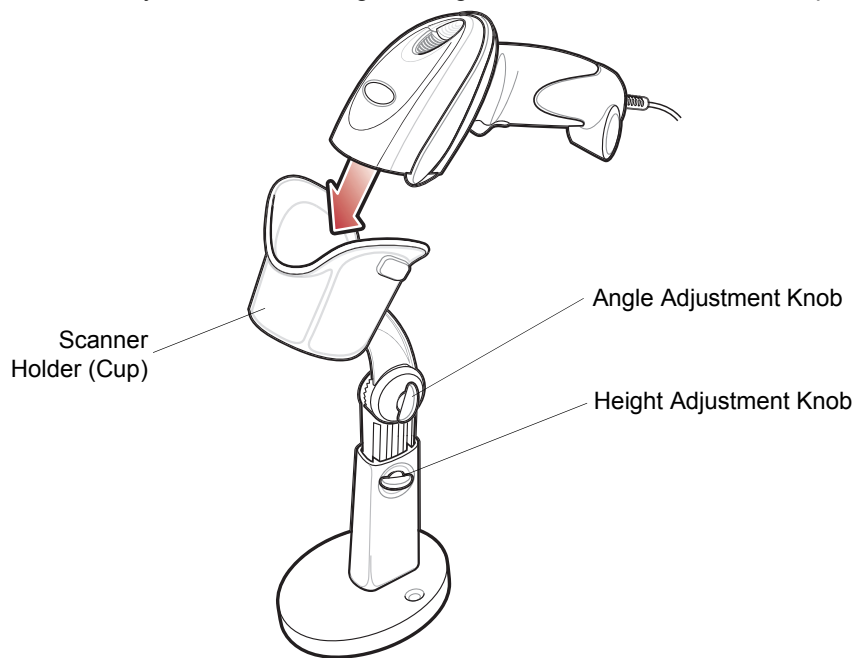

Figure 2-6 *Inserting the Digital Imager Scanner in the Intellistand*
2. Insert the digital imager scanner in the Intellistand by placing the front of the digital imager scanner into the stand's "cup" (see Figure 2-6).